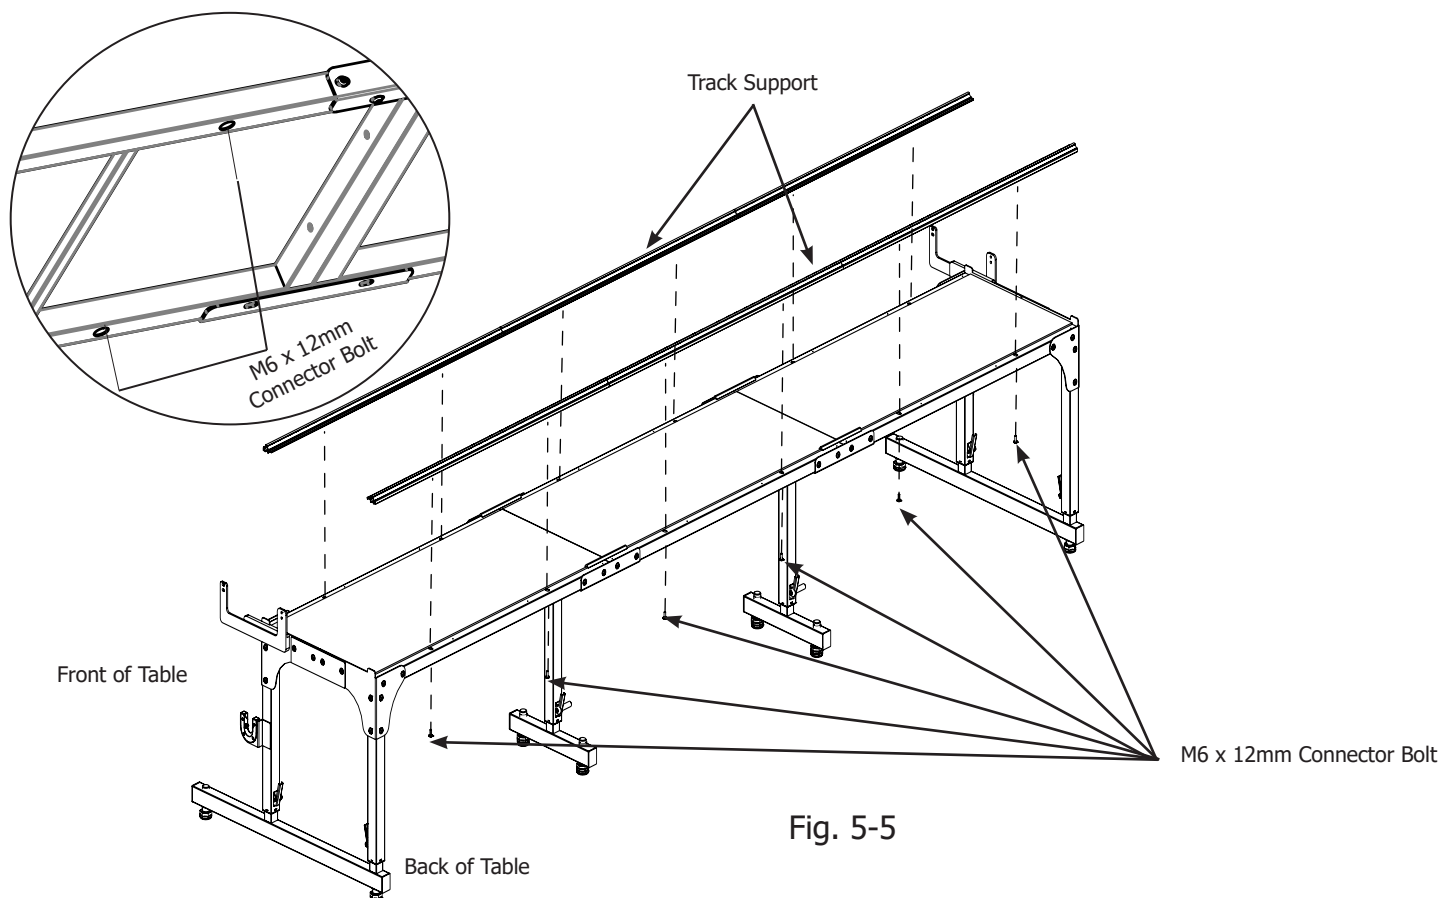

Fig. 5-5
5-8: Attach Tracks. Secure one assembled track to the back of the quilting frame. Line up the track support by holding it tightly against the plastic tabletop as you secure it to the frame, using six (6) M6 x 12mm connector screws, as shown in Fig. 5-5. **Do not tighten screws at this time.** They need to be loose to accommodate adjustments in **Step 5-9**. In same manner, attach the remaining track support to the front of the frame using six (6) M6 x 12mm connector bolts.